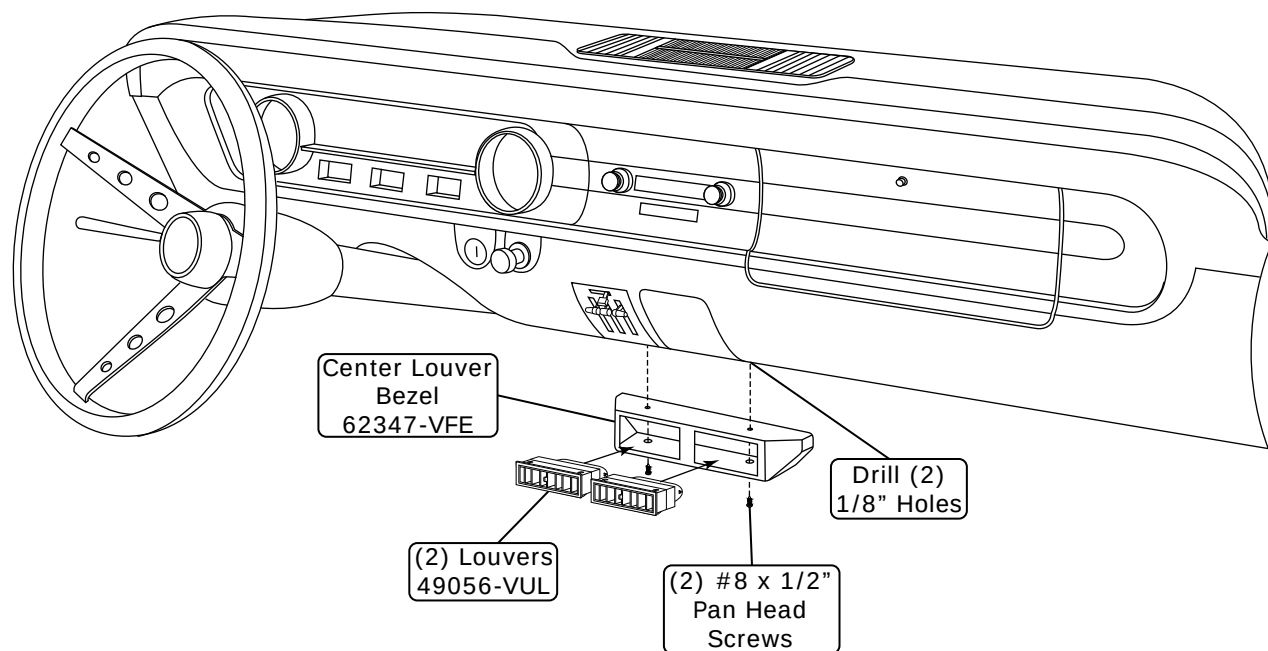

Figure 1
1. Drill (2) 1/8" holes, and install the center louver bezel under the dash using (2) #8 x 1/2" pan head screws as shown in Figure 1, below.
2. Insert the louvers into the center louver bezel as shown in Figure 1, below. **NOTE: It may be helpful to attach the duct hoses to the louvers (See Pages 23 and 25?) before inserting the louvers into the bezel.**